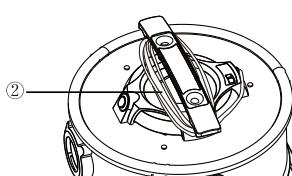

Fig 8
- Wrap the mains power cable (②) loosely around the carry handle for convenient storage (Fig. 8).